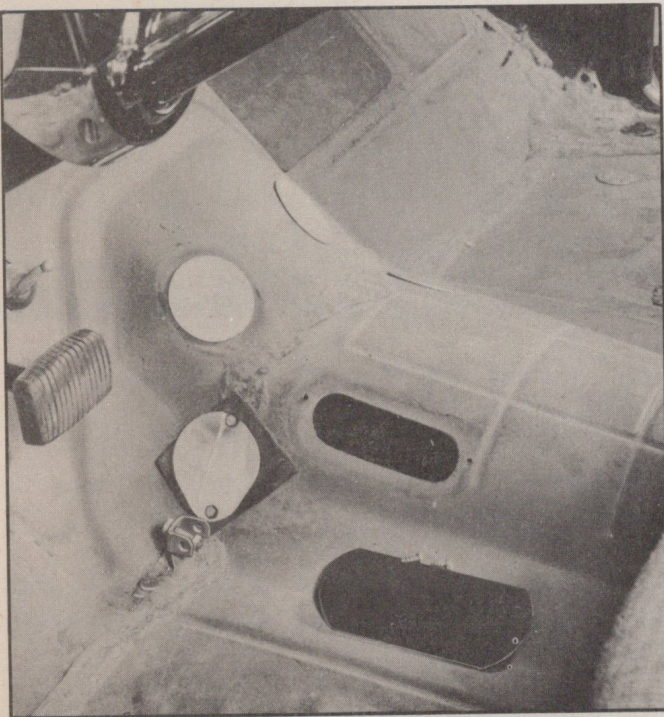

Fig. 77—Band Adjusting Floor Hole Cover Removed
2. Remove accelerator pedal, floor mat and adjusting hole cover (Fig. 77).